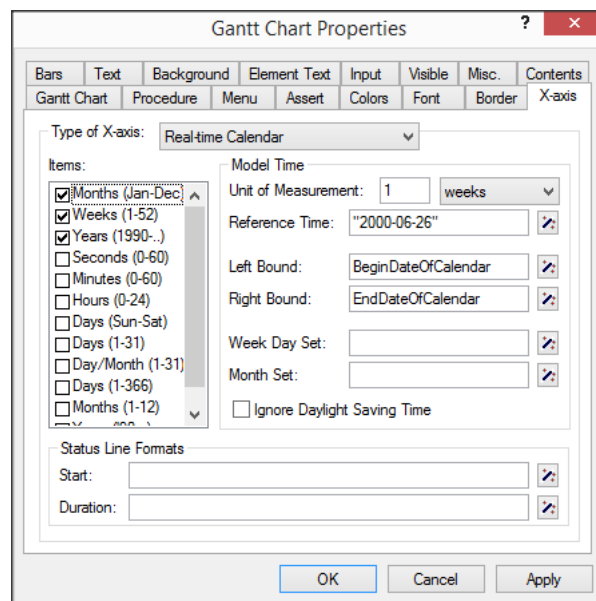

Figure 12.6: The **X-axis** tab of the **Gantt Chart Properties** dialog box
- ▶ check 'Weeks', 'Months' and 'Years' as in Figure 12.6,